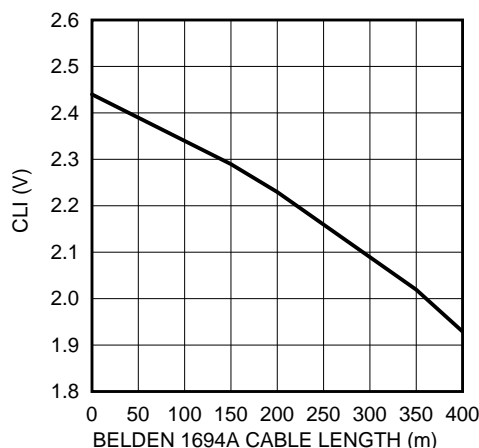

Figure 2. CLI vs. Belden 1694A Cable Length
- (1) Current flow into device pins is defined as positive. Current flow out of device pins is defined as negative. All voltages are stated referenced to $V_{EE} = 0$ Volts.
- (2) Typical values are stated for $V_{CC} = +3.3V$ and $T_A = +25^\circ C$.
- (3) Specification is guaranteed by characterization.
- (4) The maximum input voltage swing assumes a nonstressing, DC-balance signal; specifically, the SMPTE-recommended color bar test signal. Pathological or other stressing signals may not be used. This specification is for 0m cable only.
- (5) Input signal must be present for valid CLI. Refer to Figure 2 for typical results.
The cable length indicator provides a voltage to indicate the length of cable being equalized. The CLI voltage decreases as the cable length increases. Figure 2 shows the typical CLI voltage vs. Belden 1694A cable length. Note: CLI is only valid when an input signal is present.